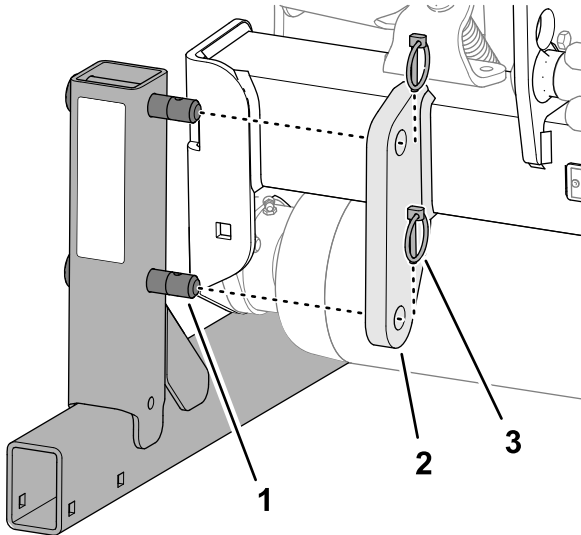

Figure 44
1. Assemble the pin of the storage stand through the holes in the stand bracket of the hitch frame (Figure 44).
2. Secure the storage stand pin to the stand bracket with the 2 lynch pins (Figure 44).